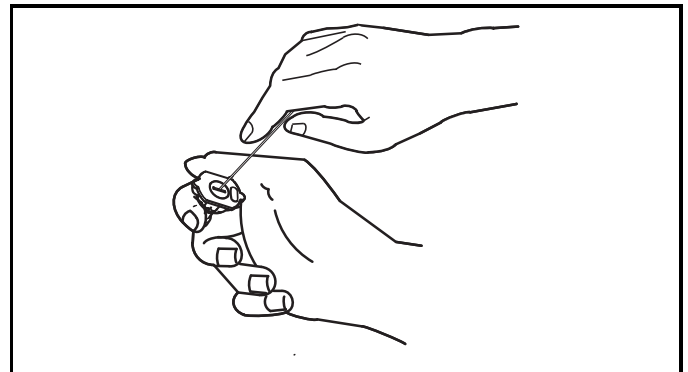

Figure 6-3. Free Foreign Material
4. Use a small paper clip to free any foreign material clogging or restricting nozzle (Figure 6-3).